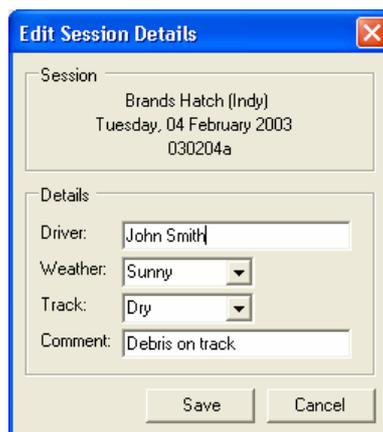

Figure 20 - Edit Session Details Dialog
2. Select **Edit** ➔ **Session Details** from the main menu, or select the **Edit Details** option from the context menu attached to the session node. The Edit Session Details dialog (Figure 20) appears.